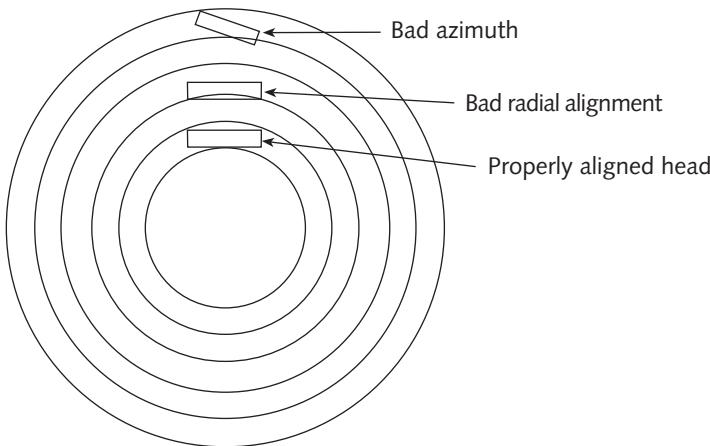

Figure 5-11 Alignment of floppy drive heads
- **Azimuth skew:** Does the drive head align well with the tracks, or is it at a tangent (see Figure 5-11)?
- **Radial alignment:** Is the drive head centered correctly on the track, or is it too far to the left or the right (see Figure 5-11)?